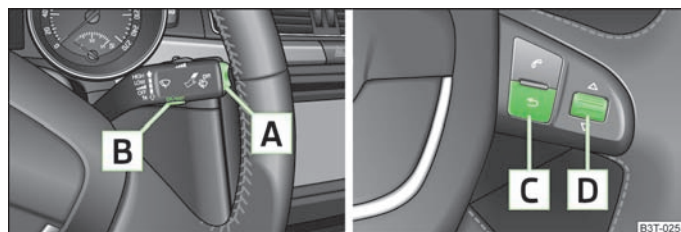

Fig. 8 Information display: Control elements on the windshield wiper lever/
- You can activate the **Main menu** by pressing the rocker switch **A** » Fig. 8 for more than 1 second.
- You can activate the **Main menu** by pressing the rocker switch **C** » Fig. 8 for more than 1 second.